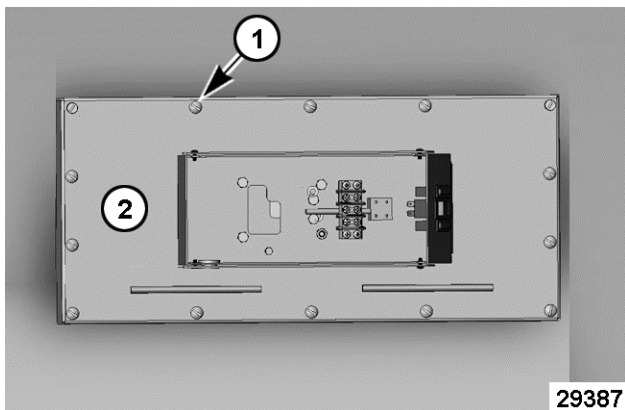

Fig. 27
- 5. Remove 12 screws (1, Fig. 27) securing platen cover assembly (2, Fig. 27) to clamshell assembly.